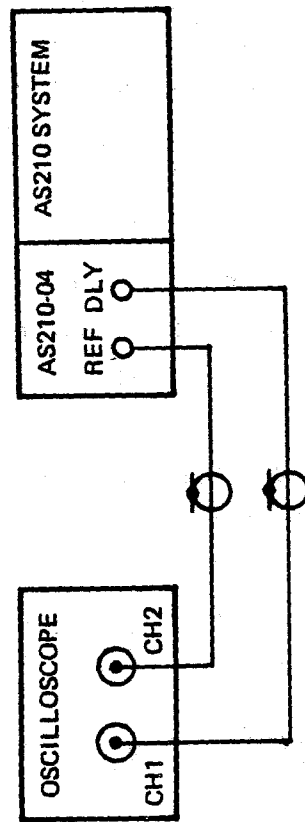

Figure 5.2 Test Configuration for Reference and Delayed Output Pulsewidth Performance
- B. Connect the equipment as indicated in Figure 5.2 and apply power. The Rubidium Frequency Standard in the AS210 system will require 20 minutes warm-up time to reach the specified frequency accuracy.
- B. Monitor the reference and delayed output pulse widths of the AS210-04 with the oscilloscope as in Figure 5.2.